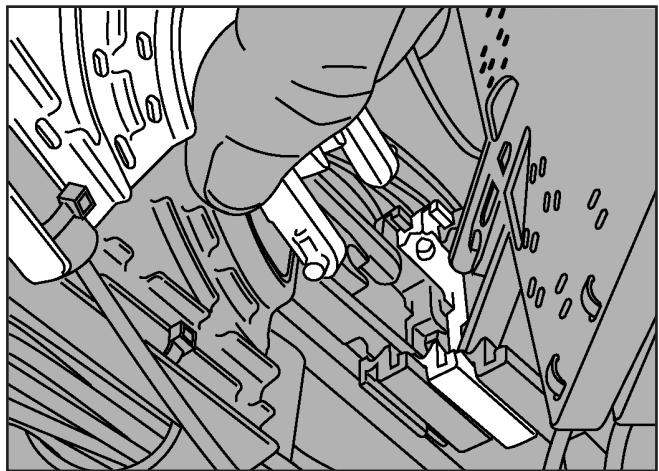

Figure 27
27. Any SLIDE-N-LOCK splice tray can be removed from the raised stack and positioned away from the splice for individual attention. (Figure 27)